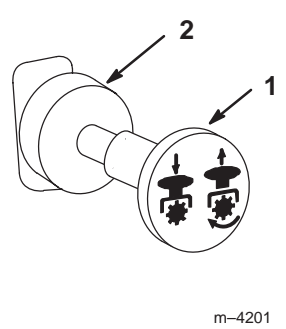

Figure 16
3. Move the PTO (power take off) switch to off (Fig. 16).